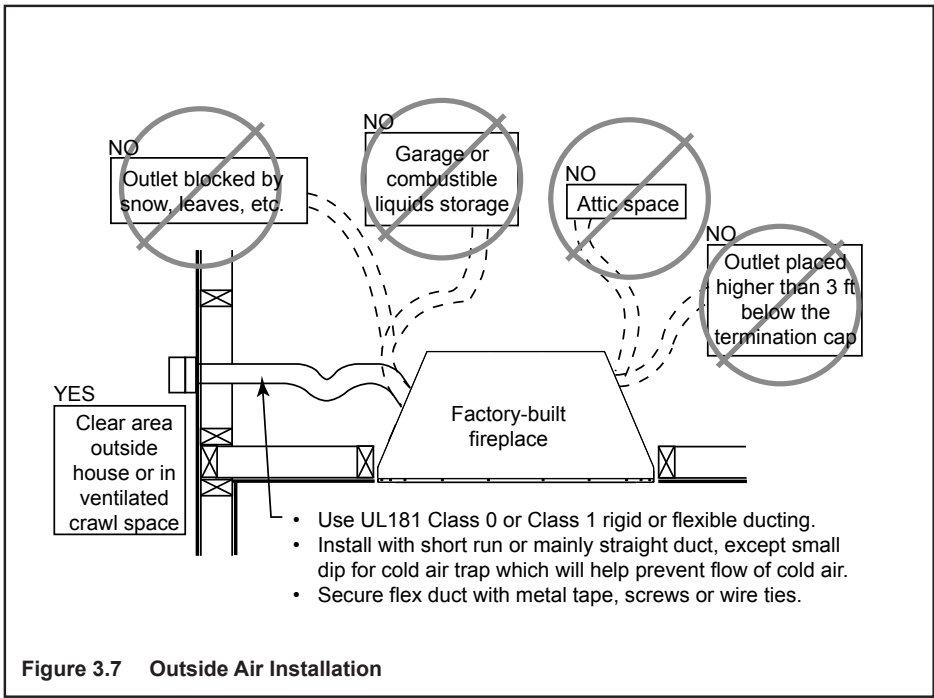

Figure 3.7 Outside Air Installation
- Locate the outside air hood in a clear area, preferably into prevailing wind during the heating season. Refer to Figure 3.7.